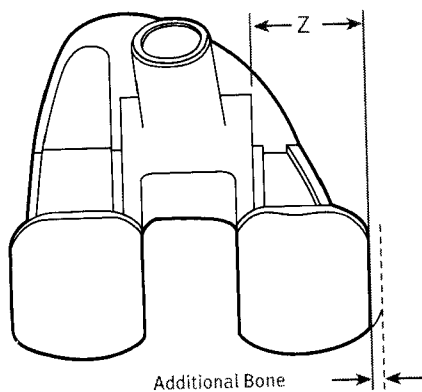

Fig. G12
- II. Measure the additional bone on the medial side (not covered by the implant) & add to 'Z' depth as shown in Fig. G12. This is the 'Total depth' to be drilled.